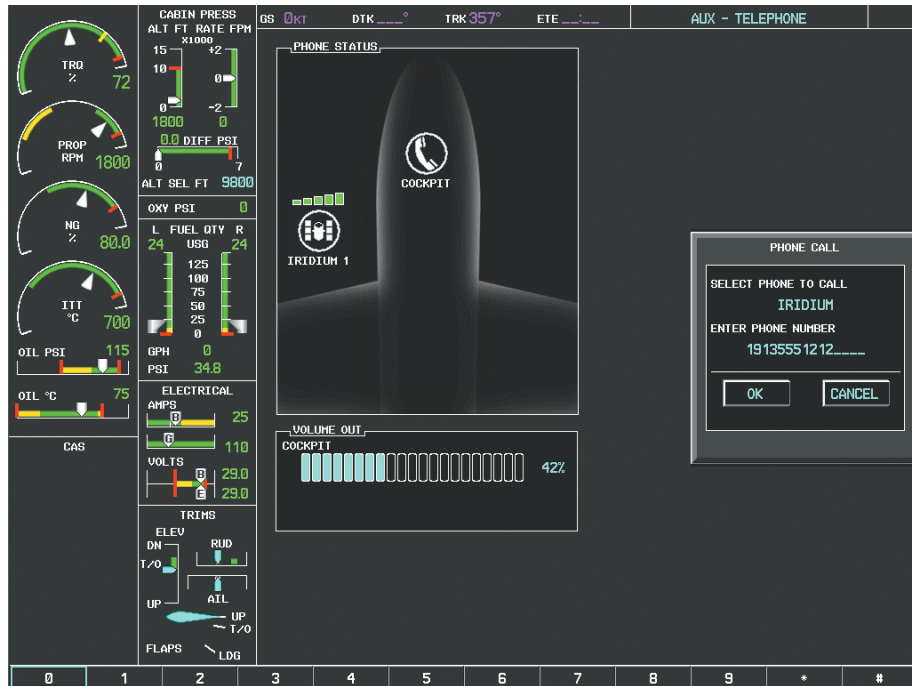

Figure 8-93 Make the Call
- 4) Press the **ENT** Key. 'OK' is highlighted as in Figure 8-93.